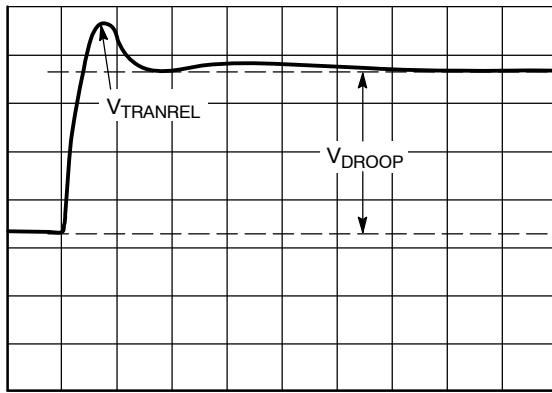

Figure 39. Transient Setting Waveform, Load Release
3. For load release (see Figure 39), if  $V_{\text{TRANREL}}$  is larger than the value specified by IMVP-6.5, a greater percentage of output capacitance is needed. Either increase the capacitance directly or decrease the inductor values. (If inductors are changed, however, it will be necessary to redesign the circuit using the information from the spreadsheet and to repeat all tuning guide procedures).